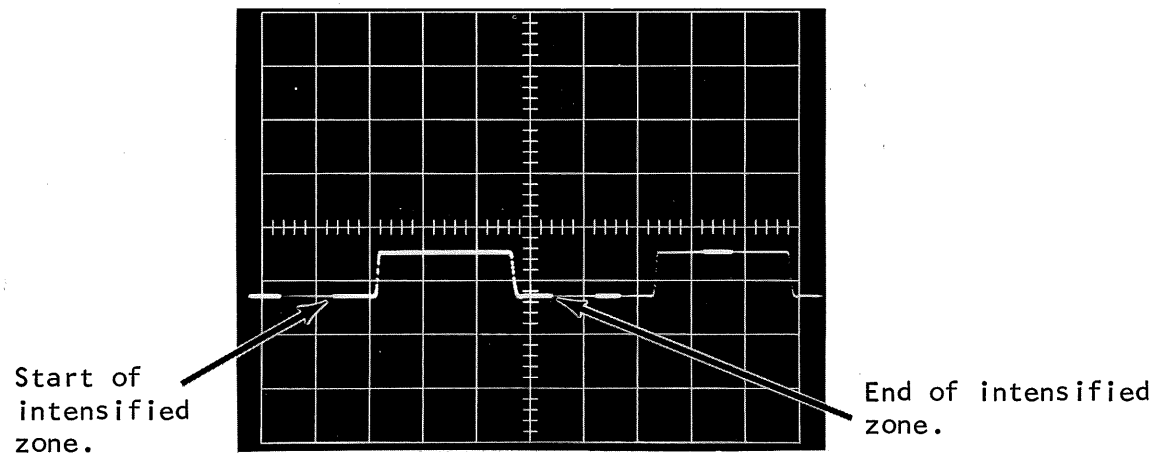

Figure 2-32
4. On the 6R1A, set the CRT INTENSIFICATION START TO STOP control up (on). Set the MANUAL START control so the intensified zone starts before the first positive slope. Set the MANUAL STOP control so the intensified zone stops after the first negative slope. See Figure 2-32.